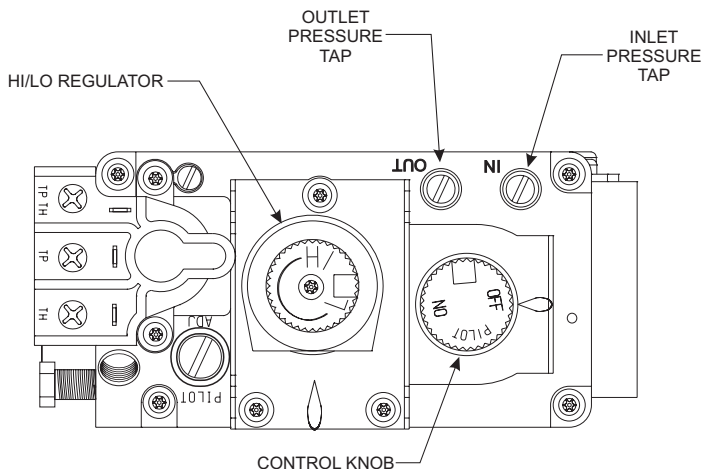

Figure 76
**NOTICE:** The gas control valve allows you to increase or decrease the height of the main burner flame. The control valve has a pressure regulator with a knob as shown in **Figure 76**. Rotate the knob clockwise to "HI" to increase the flame height and counterclockwise to "LO" to decrease the flame height.